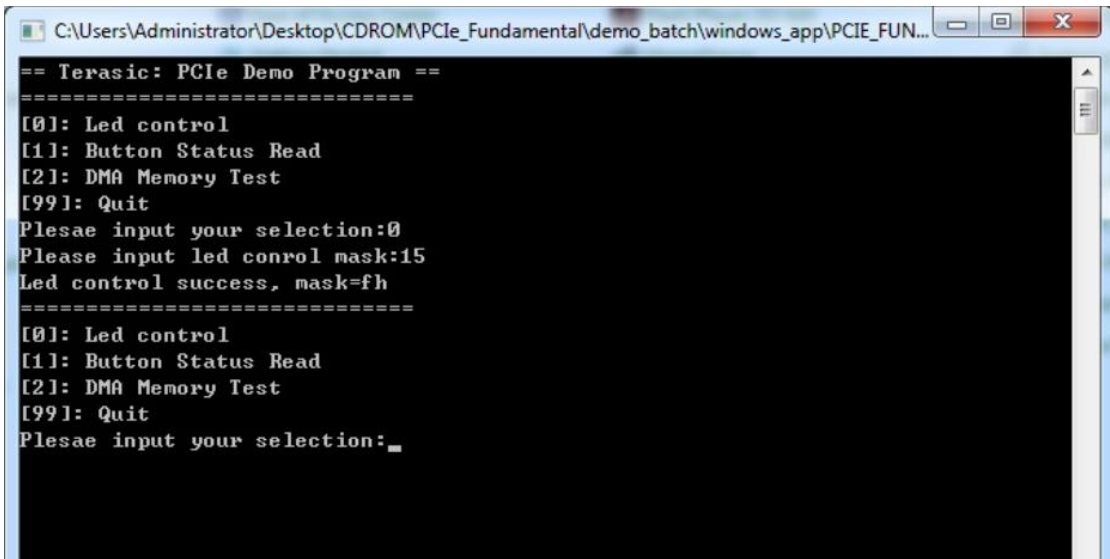

Figure 7-12 Screenshot of LED Control
8. Type 0 followed by a ENTER key to select Led Control item, then input 15 (hex 0x0f) will make all Leds on as shown in **Figure 7-12**. If input 0(hex 0x00), all Leds will be turned off.